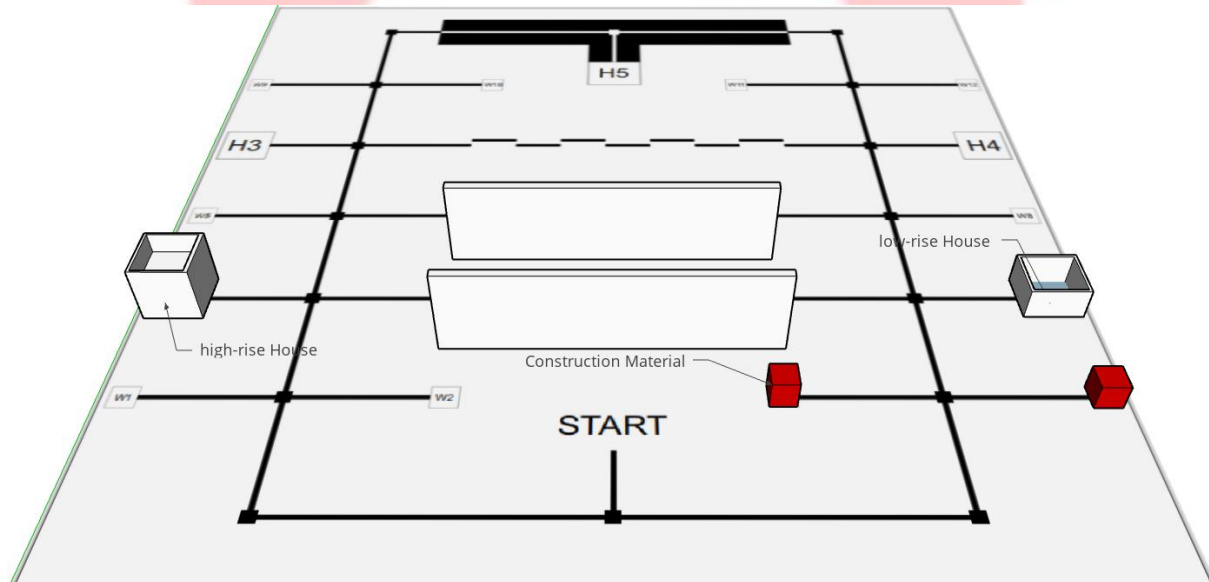

Figure 1: Placement of Wall, CMs, high-rise and low-rise House.
2. Two Walls, one low rise House, one high rise House and two Construction Material in the Warehouse should be prepared as shown in Figure 1. The two walls should be stuck on the dotted line using the double-sided tape. Refer the “Arena” Section in Rulebook for detailed information.(Rulebook will be released soon on the portal.)
4. Click a picture of the arena **with walls, low rise and high rise House, and Construction Materials** as shown in Figure 1.